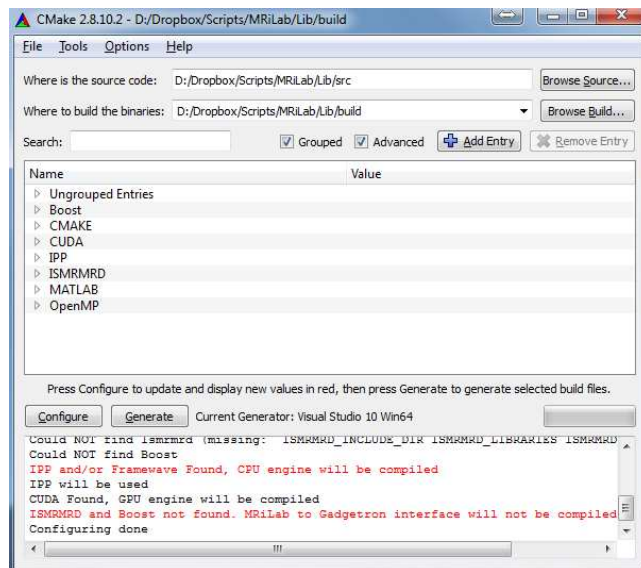

Figure 1.2: The cmake-gui for configuring and building Visual Studio projects
- Step 2 : Configure and generate Visual Studio projects in cmake-gui (Figure 1.2)